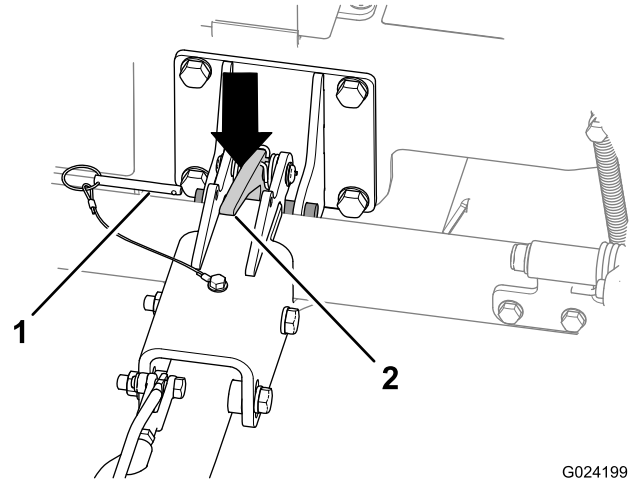

Figure 22
2. Remove the locking pin (Figure 22).
4. Push down on the hitch latch to unlatch the hitch (Figure 22).